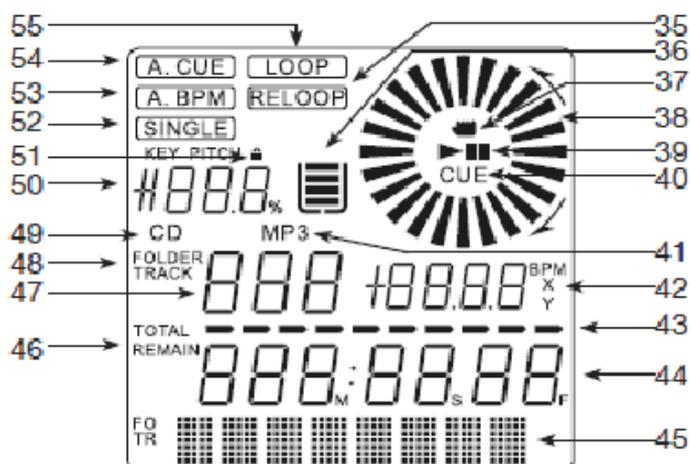

Figura 6
C. PANNELLO DISPLAY LCD (FIGURA 6)